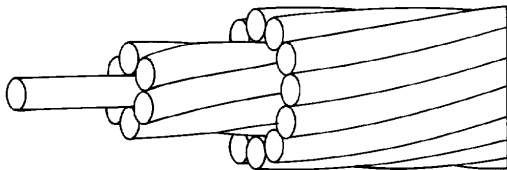

Figure 5. Unidirectional Concentric and Unilay Stranding
(5). Unidirectional Concentric Stranding is composed of a central wire surrounded by one or more layers of helically laid wires, with the same direction, and an increased length of lay for each successive layer (Figure 5).